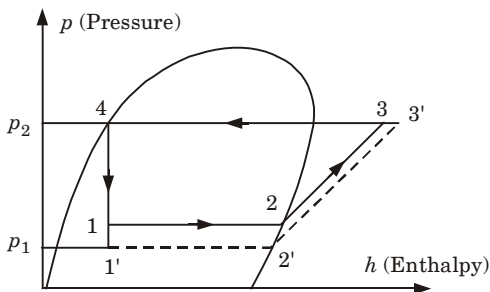

Fig. 5.12.3. Effect of decrease in suction pressure.
1. The effect of superheating in p - h diagram is shown in Fig. 5.12.3.